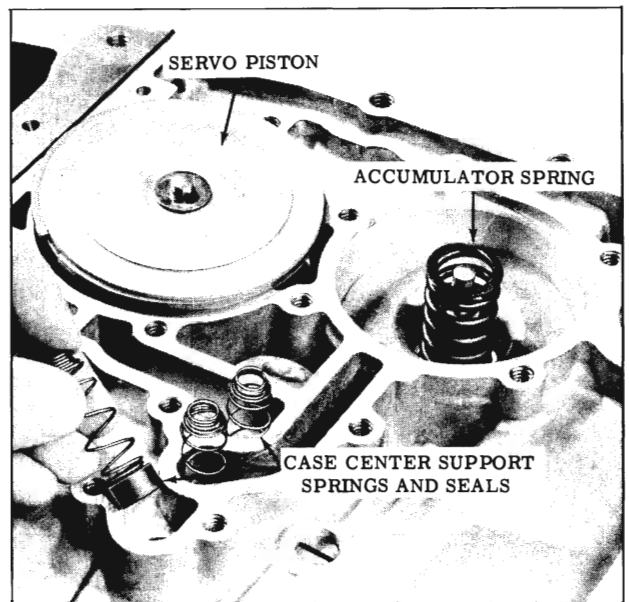

Fig. 3-121 Installing Seals and Springs
10. Install 3 case support to case seals and springs (seals down). (Fig. 3-121)